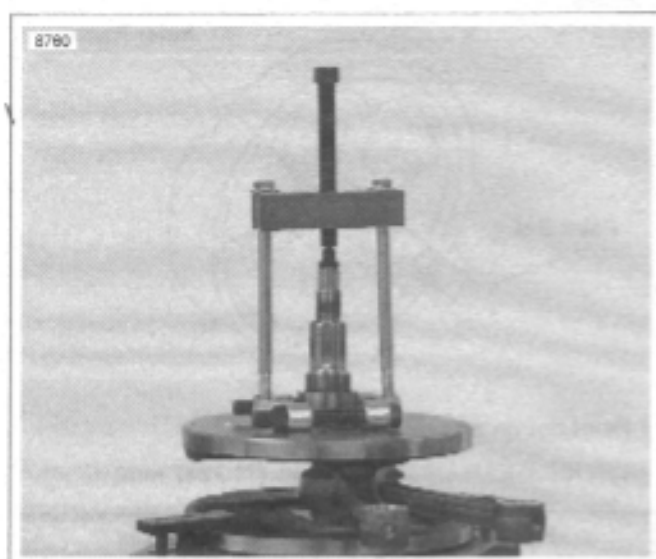

Figure 3-138. Removing Sprocket Shaft Inner Bearing Race
6. See Figure 3-138. Place flywheel assembly in FLY-WHEEL SUPPORT FIXTURE (Part No. HD-44385). Pull sprocket shaft bearing inner race with WEDGE ATTACHMENT for CLAW PULLER (Part No. HD-95637-46A) with BEARING RACE REMOVER/INSTALLER (Part No. HD-34902B) and END CAP (Part No. HD-34902-7).